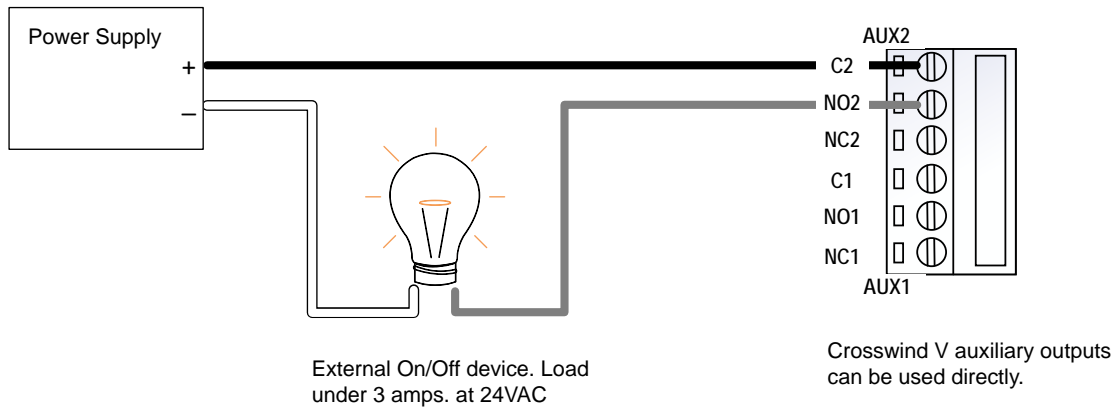

Figure 150. Applications Under 3 Amps
3. Connect the wires coming from the power source and the external device, following these guidelines. See Figure 150 for further clarification.